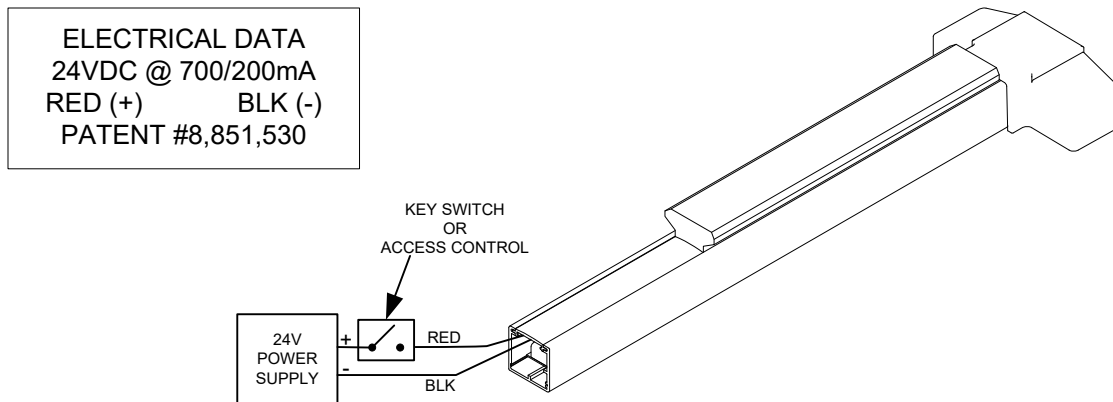

Figure 15
1. Using a 24VDC regulated power supply, wire the (+) RED wire lead from the device to the (+) positive side of power source. Wire the (-) BLACK wire lead from the device to the (-) negative side of the power source. (See Figure 15)